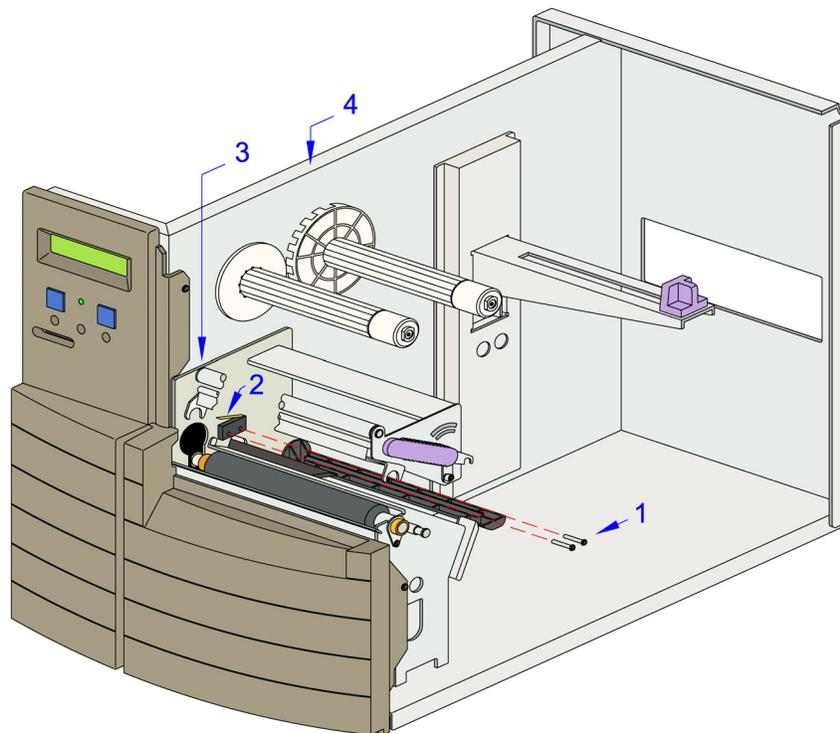

Figure 7-13, Head-Open Sensor Replacement
4. Unlatch the print head and remove two screws (1, Figure 7-13) securing defective head-open sensor (2) to print assembly (3).
5. Withdraw defective head-open sensor (2) from within print assembly (3).
6. Route the wiring harness of replacement head-open sensor (2) though the printer's center frame (4).
7. Secure replacement head-open sensor (2) to print assembly (3) using two screws (1).